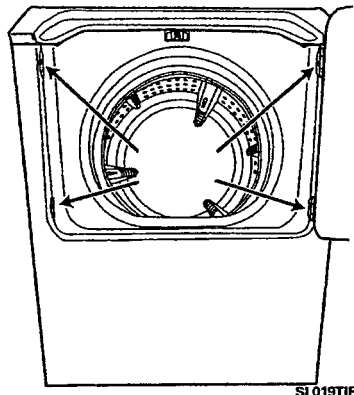

Figure 2-16
2. Open the door and remove the four screws along the inside lip of the door opening. The two that are located vertically, on either side of the door opening, secure the front panel to the front shroud assembly (*Figure 2-16*). Care should be taken when opening and closing the door with the screws removed.